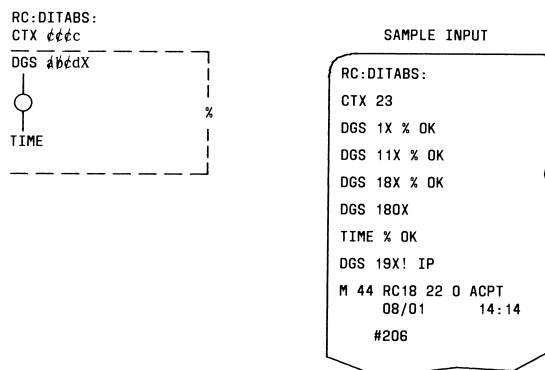

Fig. 26 — RC:DITABS Flowchart and Sample Input
- (1) Construct RC message per Table H and Fig. 26.
- (2) At terminal, type RC message as constructed in Step (1) and observe RC18 22 0 ACPT response.